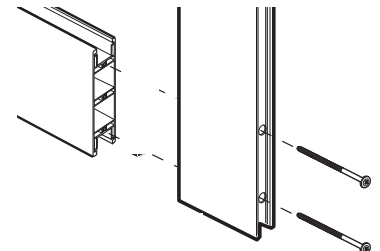

Figure 7A
Place 2 of the 4" (Z) screws into the 2 holes in the outside of the channel. Make sure they are fully inserted. See Figure 7A & 7B.